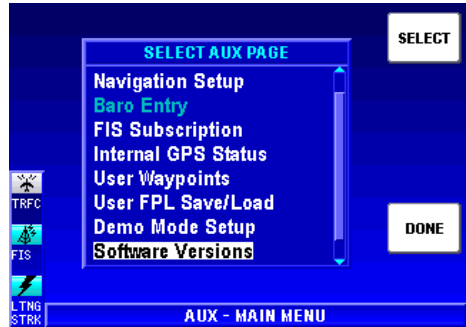

Figure 1-180
3. Press the **SELECT** Softkey to display Figure 1-180.